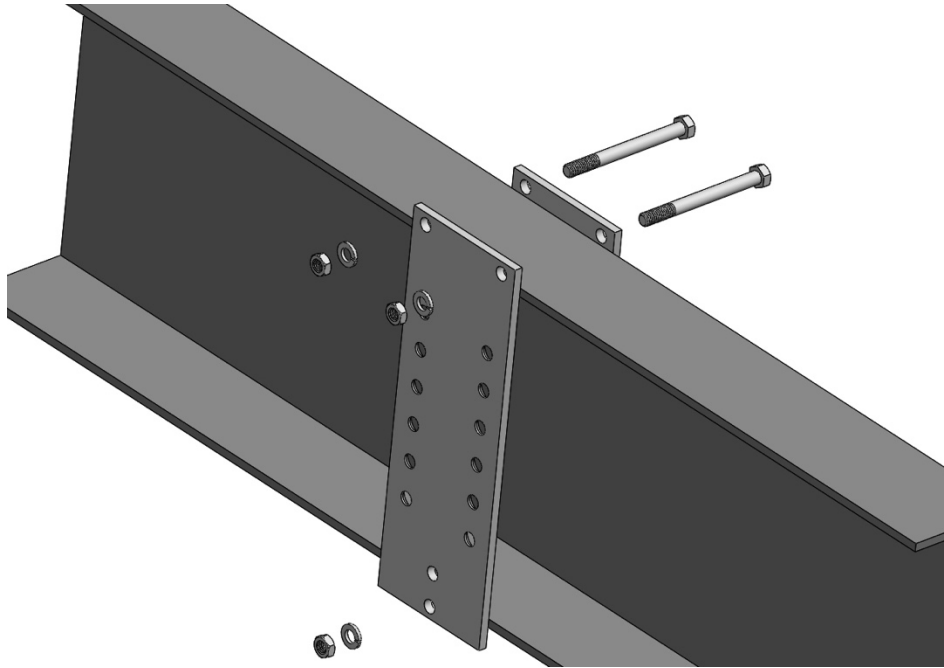

FIGURE 1-1
2. Assemble the bracket to the frame as illustrated in **FIGURE 1-1**. Use the 3/8" x 4" bolt, lock washers and nuts.